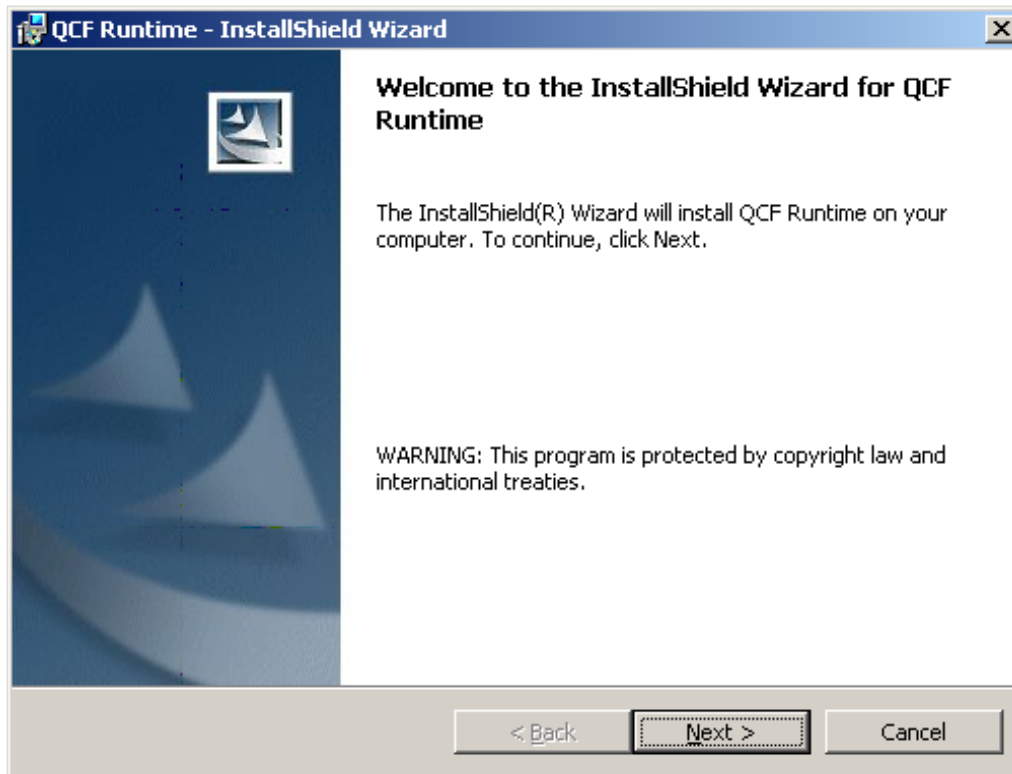

FIGURE 165. InstallShield Wizard Welcome window
8. When this has finished, the Welcome screen appears as in Figure 165: